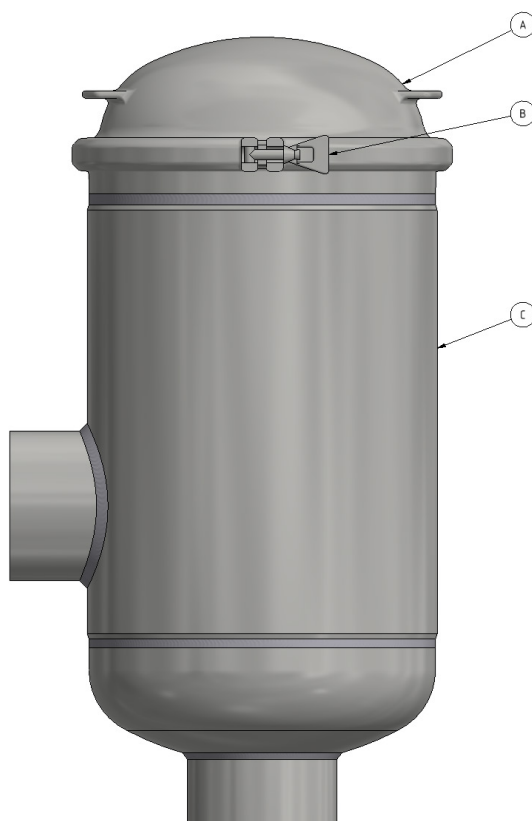

Figure 7.5 Hydrotech wash water filter.
1. Turn the main power switch to the OFF (0) position and lock with a padlock.
2. Loosen the wing nut and remove the clamping ring (B in figure 7.5).
3. Lift off the wash water filter cover (A in figure 7.5).